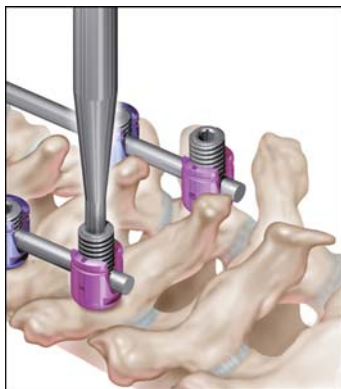

Figure 25b
- Utilizing the Inner Set Screw Inserter select a Double Inner Set Screw for use with the Head-to-Head Cross Connector. Insert the Double Inner Set Screw to the Minipolyaxial Screws that will be connected (Figure 25b).